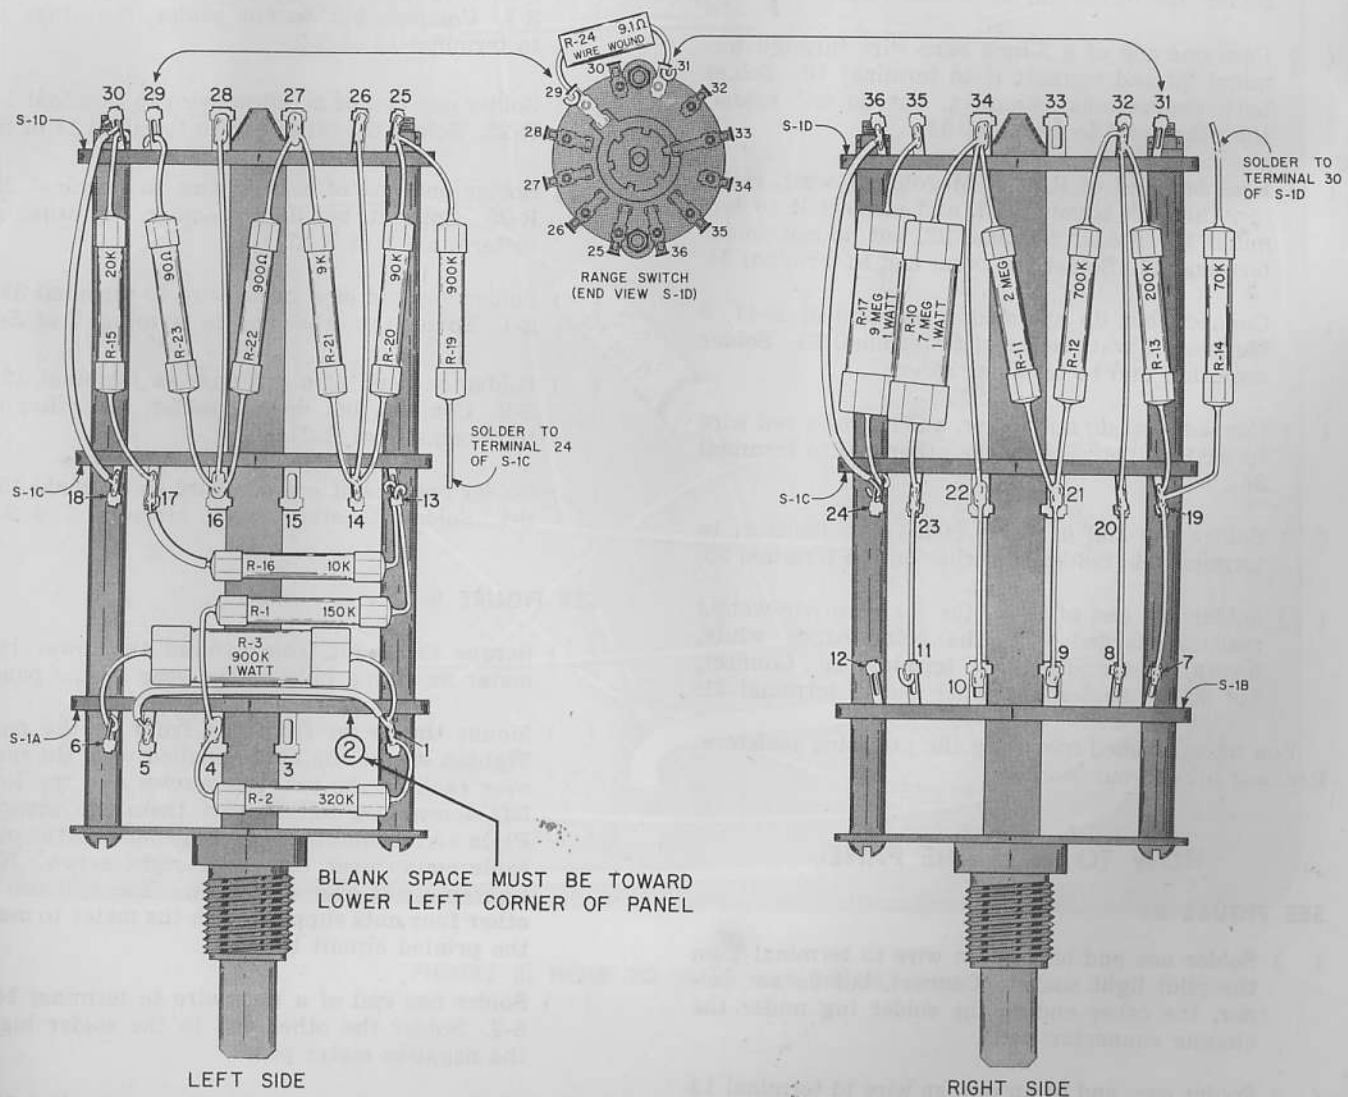

FIGURE 7. HOW TO WIRE THE RANGE SWITCH
SEE FIGURE 7.
- () Connect, but do not solder, one end of R-2, 320K ohm resistor, to terminal 1 of S-1. Connect, but do not solder, the other end to terminal 4 of S-1. Position R-2 as shown in Figure 7.
- () Connect, but do not solder, one end of R-3, 900K ohm, 1 watt, resistor, to terminal 1. Connect, but do not solder, the other end to terminal 6. Position R-3 as shown in Figure 7.